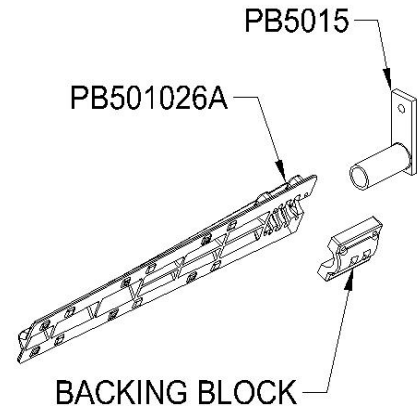

Figure 6
- A. Loosely clamp the bracket (part number PB501026A) and the backing block to the swivel (part number PB5015). Do not tighten down the bolts. Allow the bracket to rotate on the swivel during installation. See figure 6